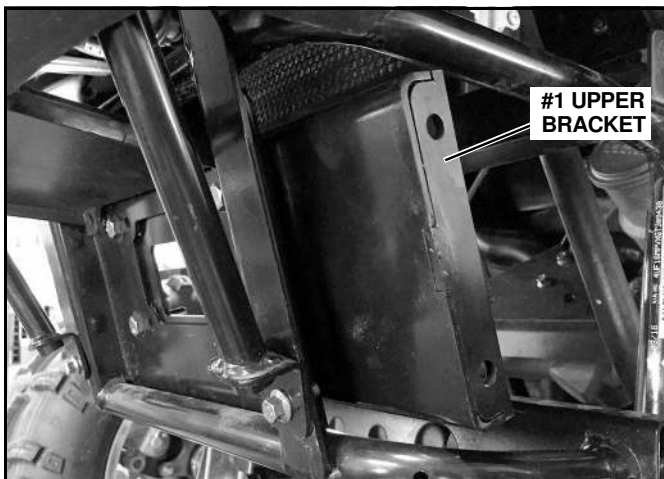
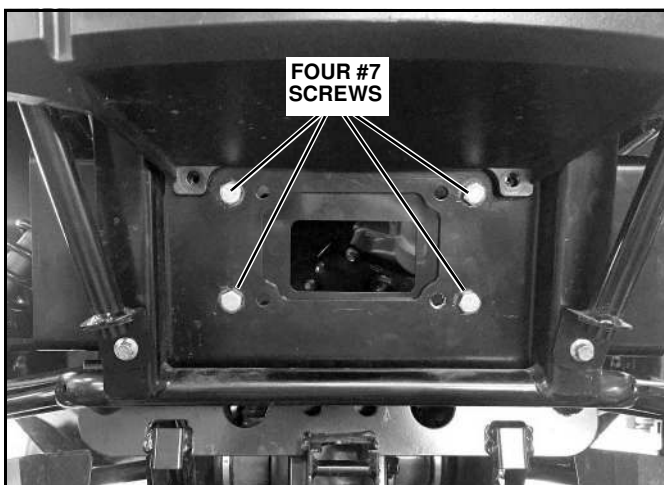

Figure 4
Figure 5
- Insert the Upper Bracket (#1) behind the frame, aligning the rectangular hole in the Upper Bracket with the rectangular winch mount hole in the frame. Secure with (4) 3/8" x 1-1/4" Hex Head Cap Screws (#7) and (4) 3/8" Lock Nuts (#8). (See Figure 4 and Figure 5.)